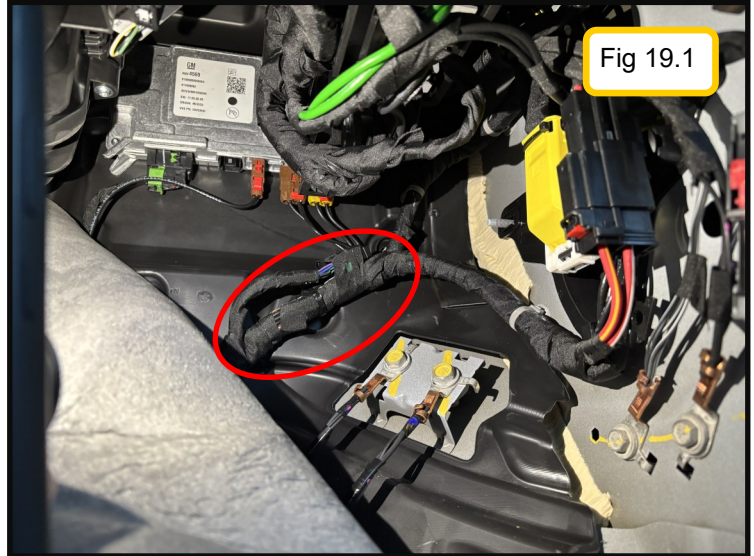

Fig 19.1
1. Remove the lower trim panel and pull back the flooring to reveal the OEM body wire harness. (Fig 19.1)